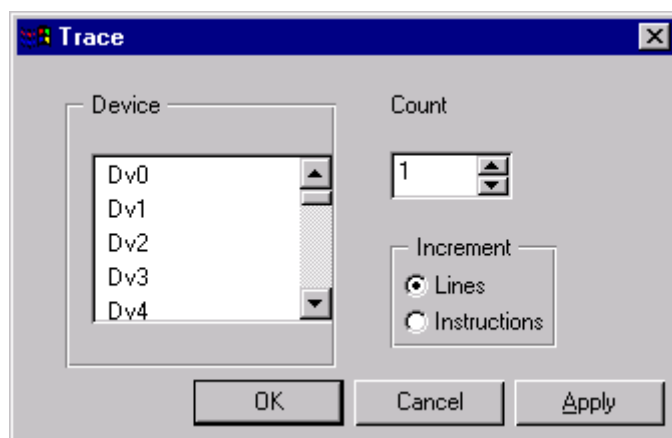

Figure 3-3. Trace Program Execution
1. From the **Execute** menu choose **Trace**. The dialog box in Figure 3-3 appears.